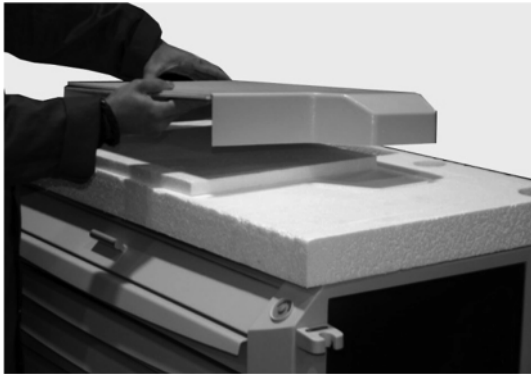

Fig.39
1. Remove the plastic housing **M15** from the top. (Fig. 39)